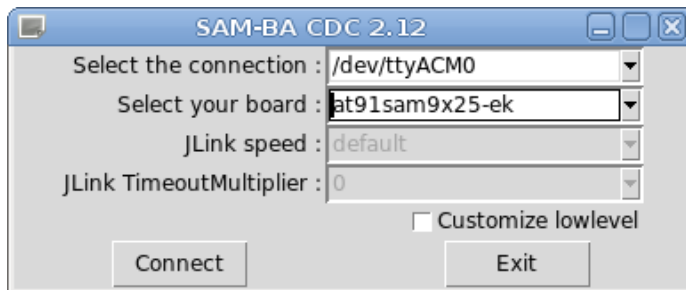

Figure 4: SAM-BA dialog window with connection and board selected
8. Select the appropriate connection and board (Figure 4).